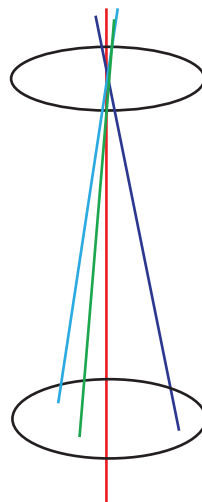

Figure 6a. The three new axes have been moved only on one end and they are twisted axes, meaning that they intersect the center axis (red) at some point.
- An axis is considered twisted when each end is moved in a different direction and distance from the center axis so that the new axis intersects the center axis or another axis at some point. The spindle can be repositioned on one or both ends (Figures 6a, 6b). The results look twisted.